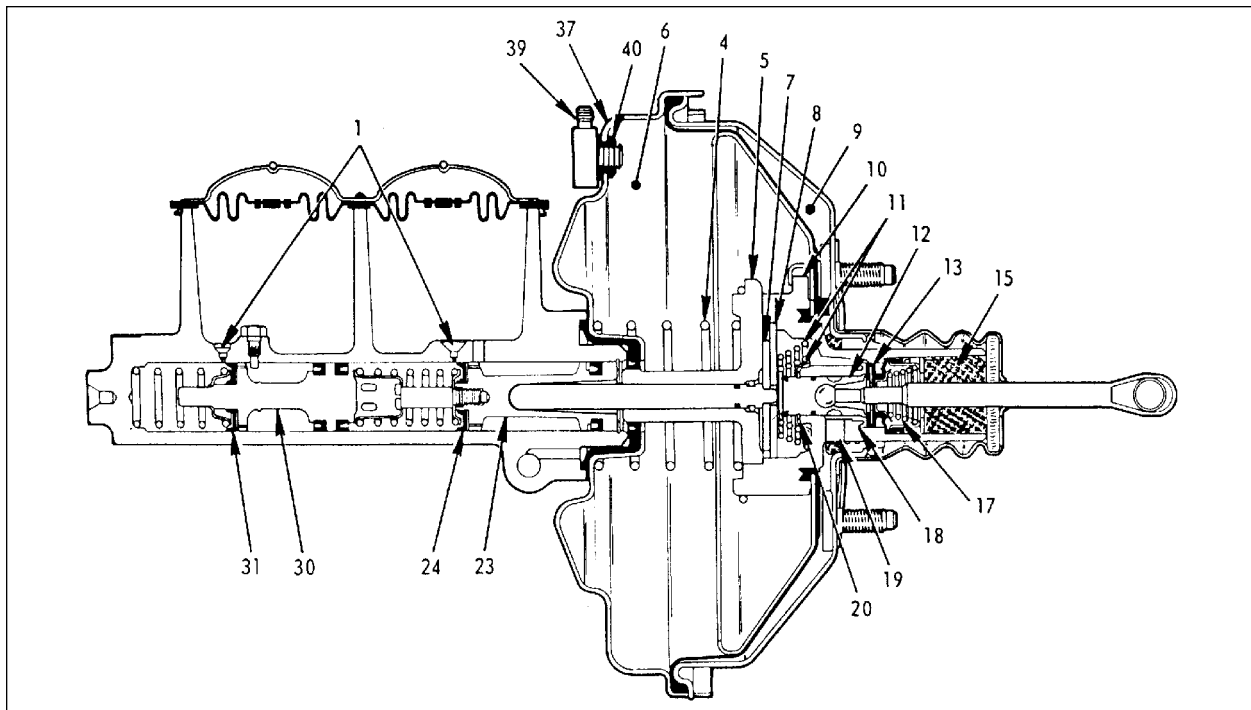

Fig. 1 - Single diaphragm power brake - released
A line from the engine intake-manifold is connected to the vacuum check valve (39) (Fig. 1) in the front housing (37) of the power brake. This check valve is to prevent loss of vacuum when manifold vacuum falls below that stored in the power brake system.
At the released position (Fig. 1) the air valve (12) is seated on the floating control valve (13). The air under atmospheric pressure, which enters through the filter elements (15) in the tube extension of the power piston, is shut off at the air valve (12). The floating control valve is held away from the valve seat (18) in the power piston (10). The vacuum, which is present at all times in the space (6) to the left of the power piston is free to evacuate any existing air on the right side (9) of the power piston. This air is drawn through two small passages (19) in the power piston, over the valve seat (18) in the power piston, and then through the power piston into the space at the left of the power piston (6). It is then drawn through the check valve to the vacuum source.